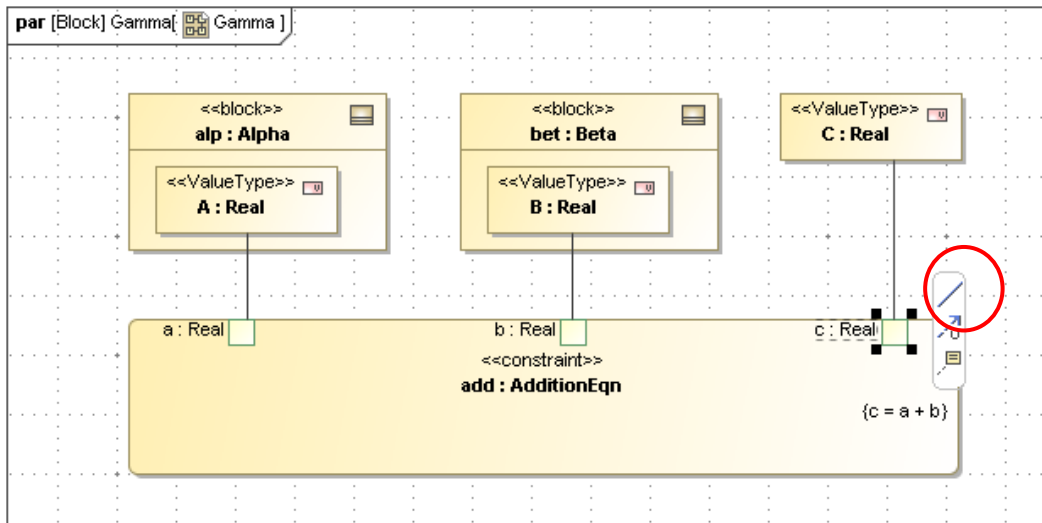
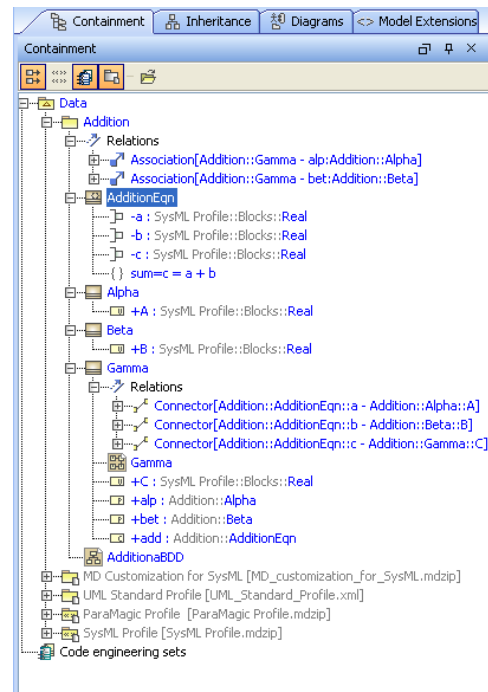

Figure 2.14 SysML Parametrics Diagram with connectors, connector icon highlighted
Figure 2.15 Containment Tree
- ii. From the floating toolbar that appears, choose the Connector icon (simple straight line, see highlight in Figure 2.14) and drag the end to A in block alp:Alpha. If the connection is yellow, then the parameter is incorrectly linked to the block, alp:Alpha, instead of the value property, A:Real.
- iv. At this stage, the parametric diagram should look like Figure 2.14 and the Containment tree should look like Figure 2.15.